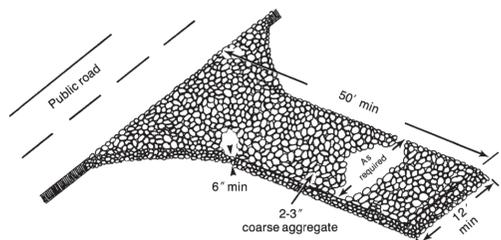

Figure 6.06a Gravel entrance/exit keeps sediment from leaving the construction site (modified from Va SWCC).
**Location**—Locate construction entrances and exits to limit sediment from leaving the site and to provide for maximum utility by all construction vehicles (Figure 6.06a). Avoid steep grades, and entrances at curves in public roads.